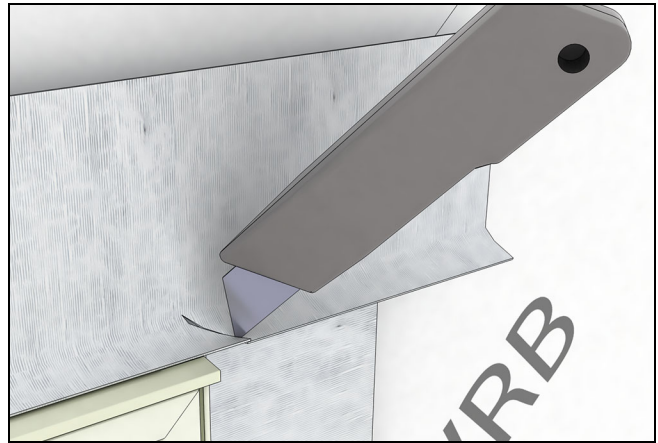
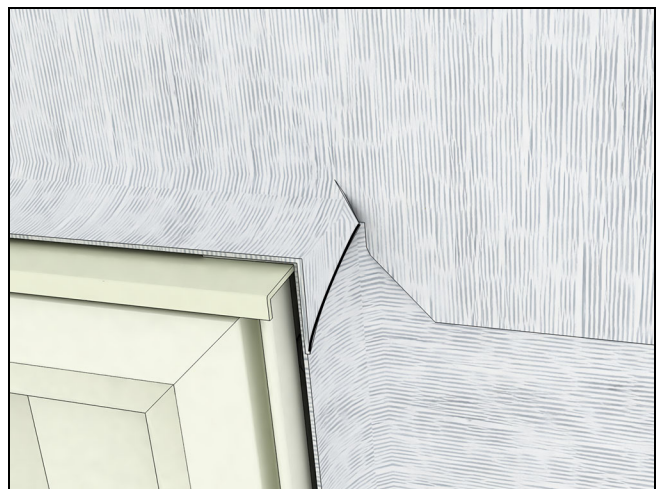

Figure 14
Figure 15
**7.** Install another layer of adhesive membrane lapping onto the head jamb of the unit and over the sheathing. The membrane flashing at the head jamb should extend and cover the flashing previously installed at the jambs. Make relief cuts and fold down so that it wraps around the jamb See Figure 14 and Figure 15.